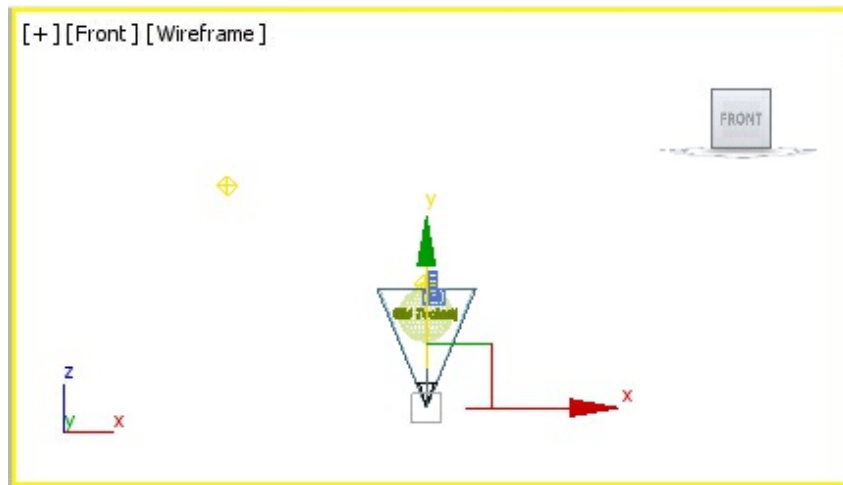
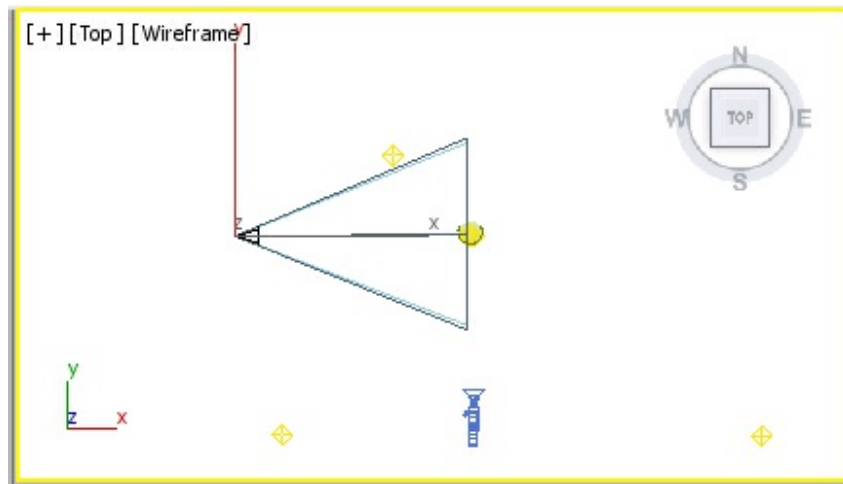

Figure 14-57 Spot light created in the Front viewport
Figure 14-58 Spot light created in the Top viewport
21. Choose the **Target Spot** tool from **Create > Lights > Standard > Object Type** rollout in the **Command Panel** and then create a spot light in the Front viewport, as shown in Figure 14-57. Also, create another spot light in the Top viewport, as shown in Figure 14-58.